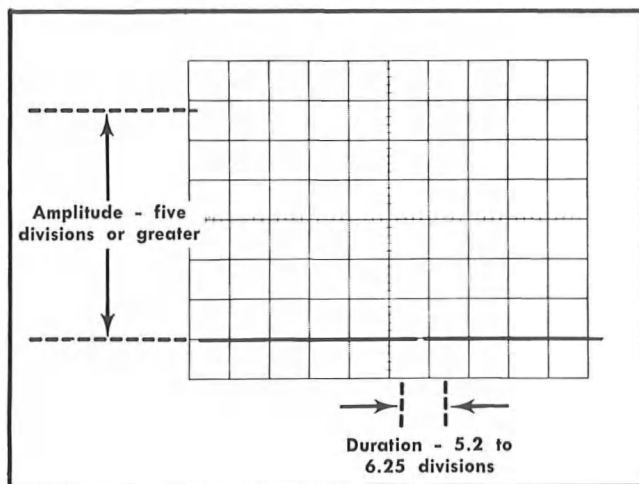

Fig. 5-28. Typical test oscilloscope display when checking GATE OUT signal (vertical deflection 0.1 volt/division; sweep rate two milliseconds/division).
d. CHECK—Test oscilloscope for five divisions or greater amplitude (0.5 volt or greater in amplitude; see Fig. 5-28). Gate duration should be between 5.2 and 6.05 divisions (10.4 to 12.1 times the TIME/DIV switch setting).